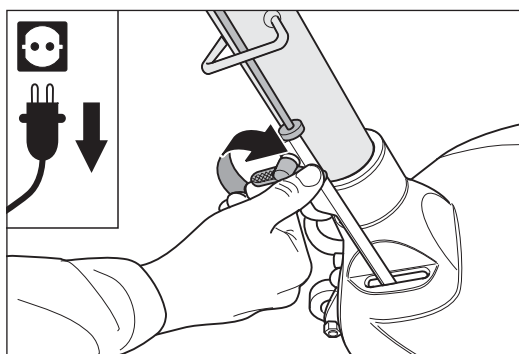
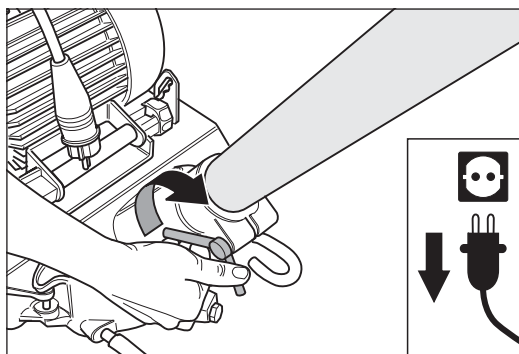

Fig. 3 After inserting the guide tube, carefully tighten the wing screw at the lower rod.
Fig. 4 After inserting the guide tube, carefully tighten the wing nut at the machine housing.
- 4 Carefully tighten the wing screw at the lower rod (Fig. 3) and the wing nut at the machine housing (Fig. 4).